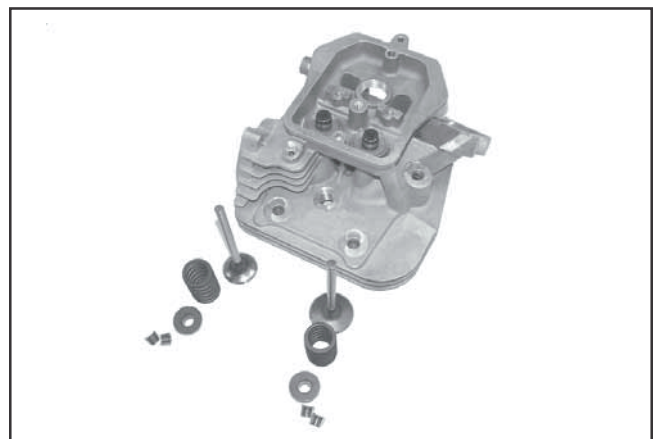

Figure 8-46. Valve Train Components.
3. Once the valve spring is compressed, remove the following items. See Figures 8-46 and 8-47.